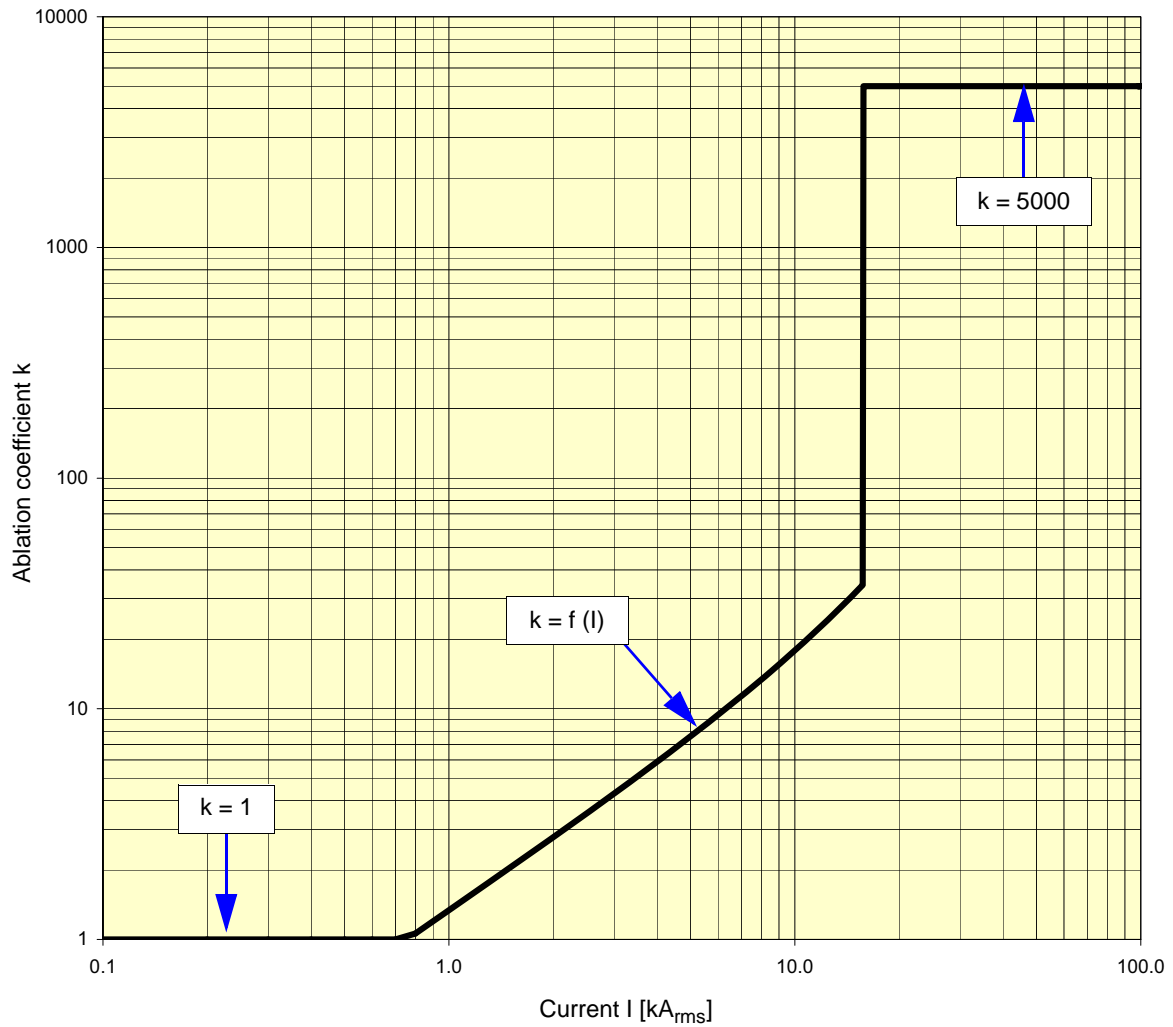

Fig. 8-5 Ablation coefficient k
– Fig. 8-5 Ablation coefficient k, page 204
Assuming exemplary operations the values  $k(I)$  are calculated according to the formula in Fig. 8-5, page 204.